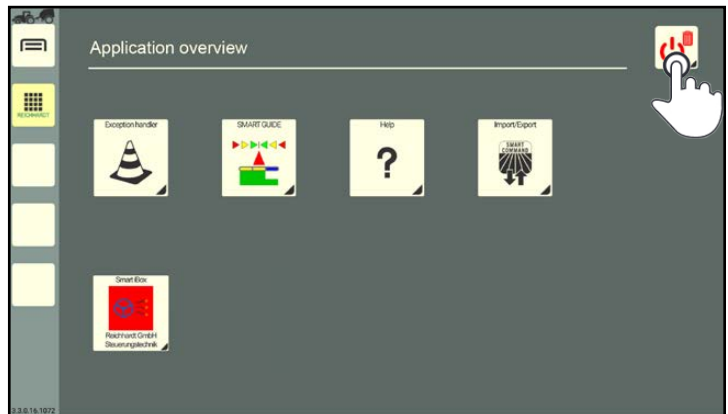

Fig. 95: Tapping the Delete/Exit button
2. Tap the Delete/Exit button (see Fig. 95).